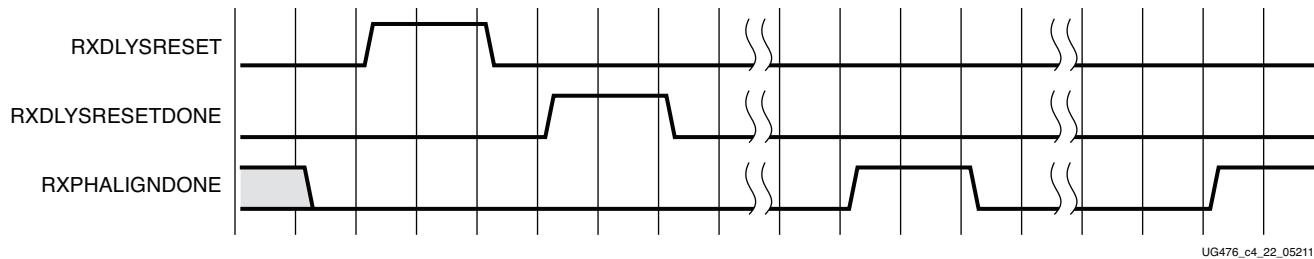

Figure 4-40: RX Buffer Bypass—Single-Lane Auto mode (GTX Transceiver Only)
Figure 4-40 shows the required steps to perform the auto RX phase alignment and use the RX delay alignment to adjust RXUSRCLK to compensate for temperature and voltage variations.
Notes relevant to Figure 4-40:
1. The sequence of events in Figure 4-40 is not drawn to scale.